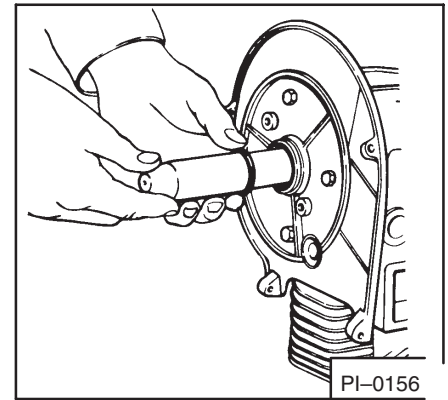

Fig. 57 Installing Seals with Sleeve
- c. Use seal driver and seal sleeve of correct size and install carefully to prevent the seal lip from rolling and creasing. Press against outer edge of seal and press squarely into position (Fig. 57).